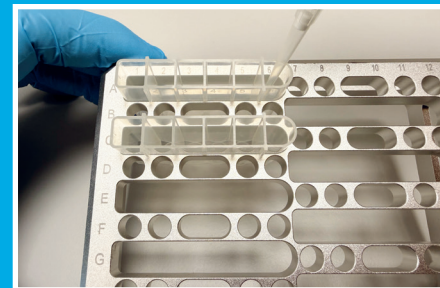

Fig. 5
- Remove Go Cartridge holder from instrument and collect eluate from well position 6 (Fig. 5)